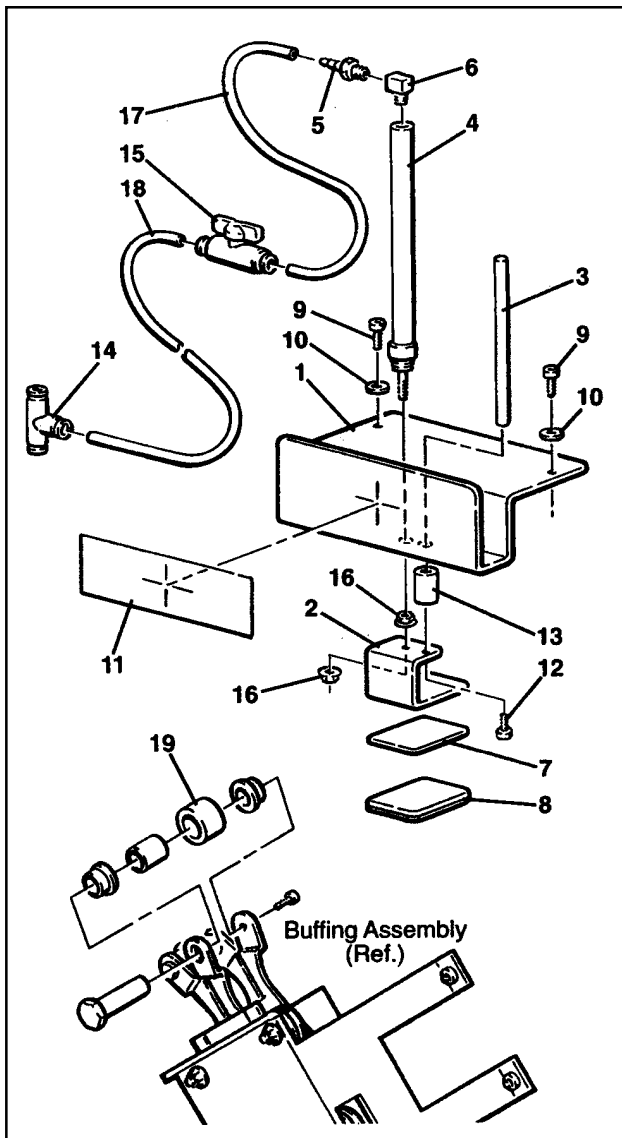

Figure 7—Replacement Parts Illustration
1. Refer to Parts Illustration Figure 7 to find part needed and reference number.